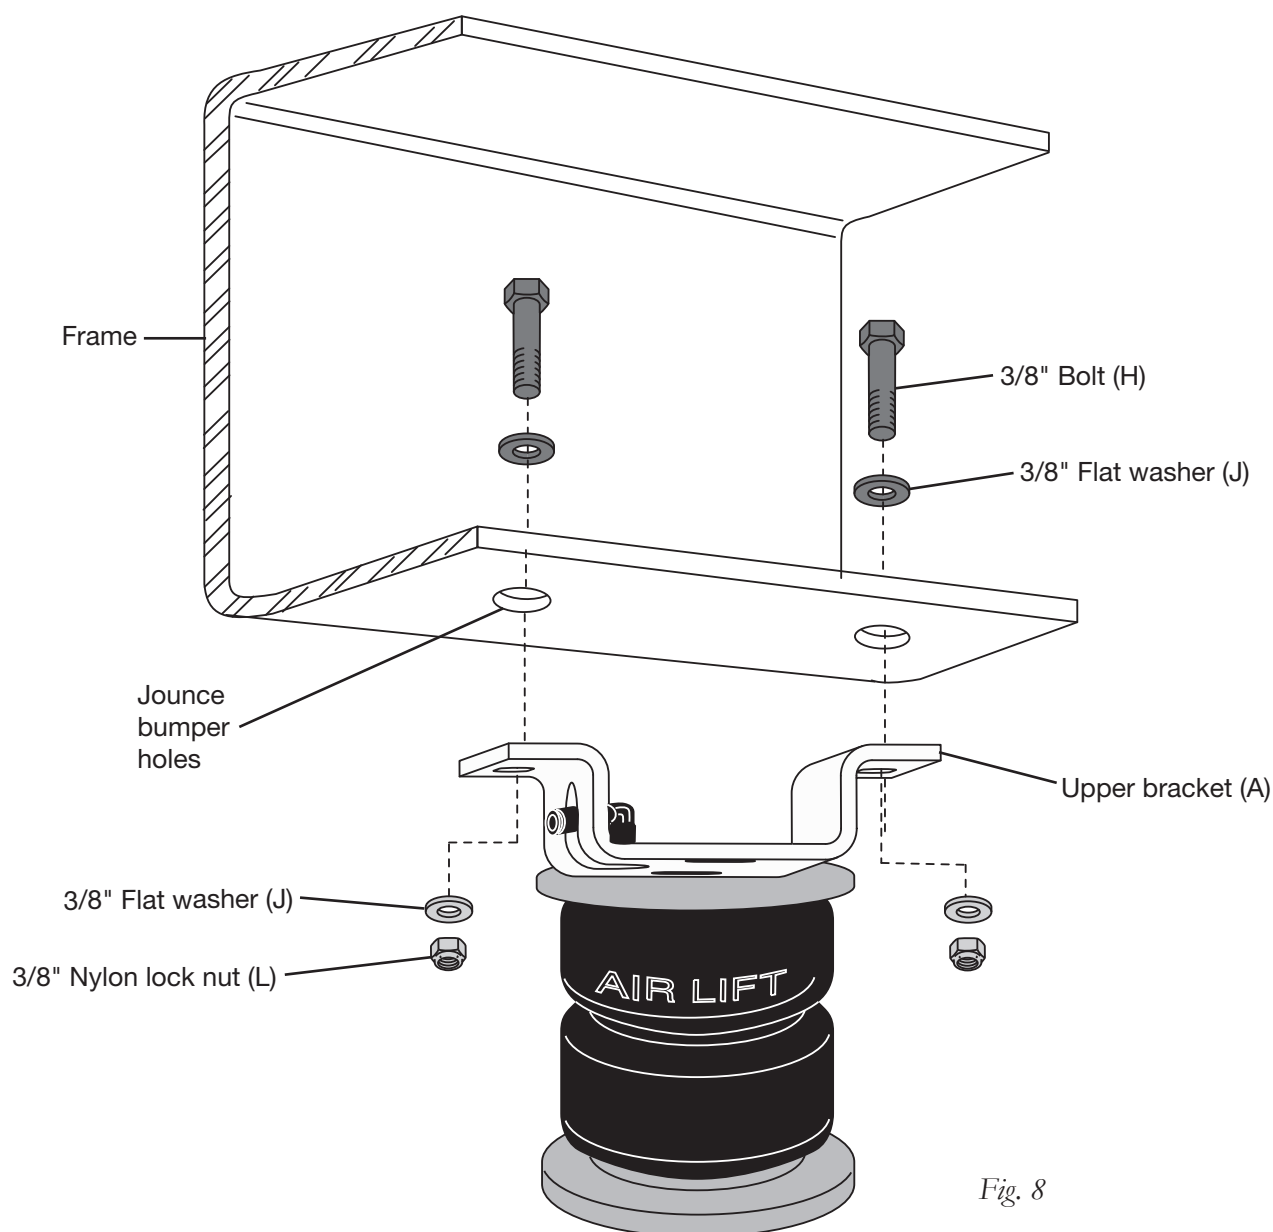

Fig. 8
2. Insert two 3/8" bolts (H) and flat washers (J) through the existing jounce bumper holes and through the slotted holes in the upper bracket (Fig. 8).
3. Attach the upper bracket using two flat washers (J) and nylon lock nuts (L) on each previously installed bolt (Fig. 8).
**NOTE** There should be a thumbs width between the air spring roll plate (D) and the leaf spring U-bolt.